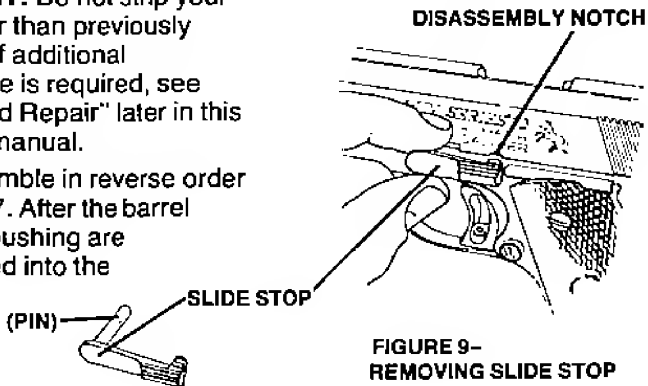

**FIGURE 8—
3. Push slide back about one quarter inch, press down on recoil spring plug (located just below muzzle) and at same time rotate barrel bushing clockwise about $\frac{1}{4}$ turn, using barrel bushing wrench if necessary; this will free plug and recoil spring. Keep pressure on plug to prevent it being ejected by the spring, then allow plug and spring to gradually extend out of the slide. (See Figure 8)